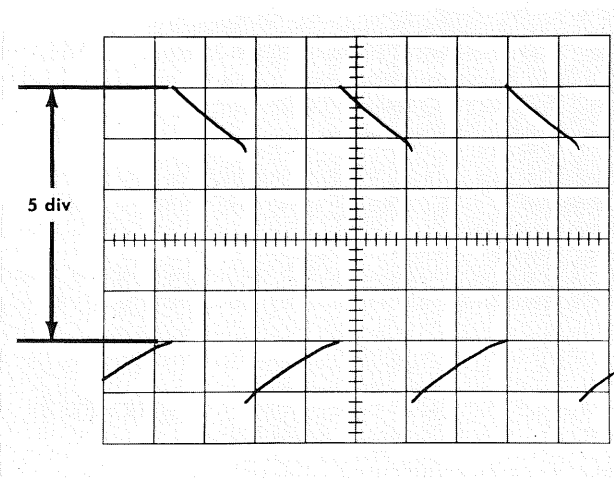

Fig. 2. Five-millivolt Calibrator signal displayed with Type 50 CALIBRATION control set for 1 millivolt per division.
3. Set the CALIBRATION adjustment so that the vertical portions of the displayed waveform are exactly 1 graticule division high if you are using the Type 560 or Type 565 Oscilloscope, or 5 divisions high if you are using the Type 561 Oscilloscope. See Fig. 2. (The slope in the top and bottom of the waveform is due to ac coupling within the amplifier.)